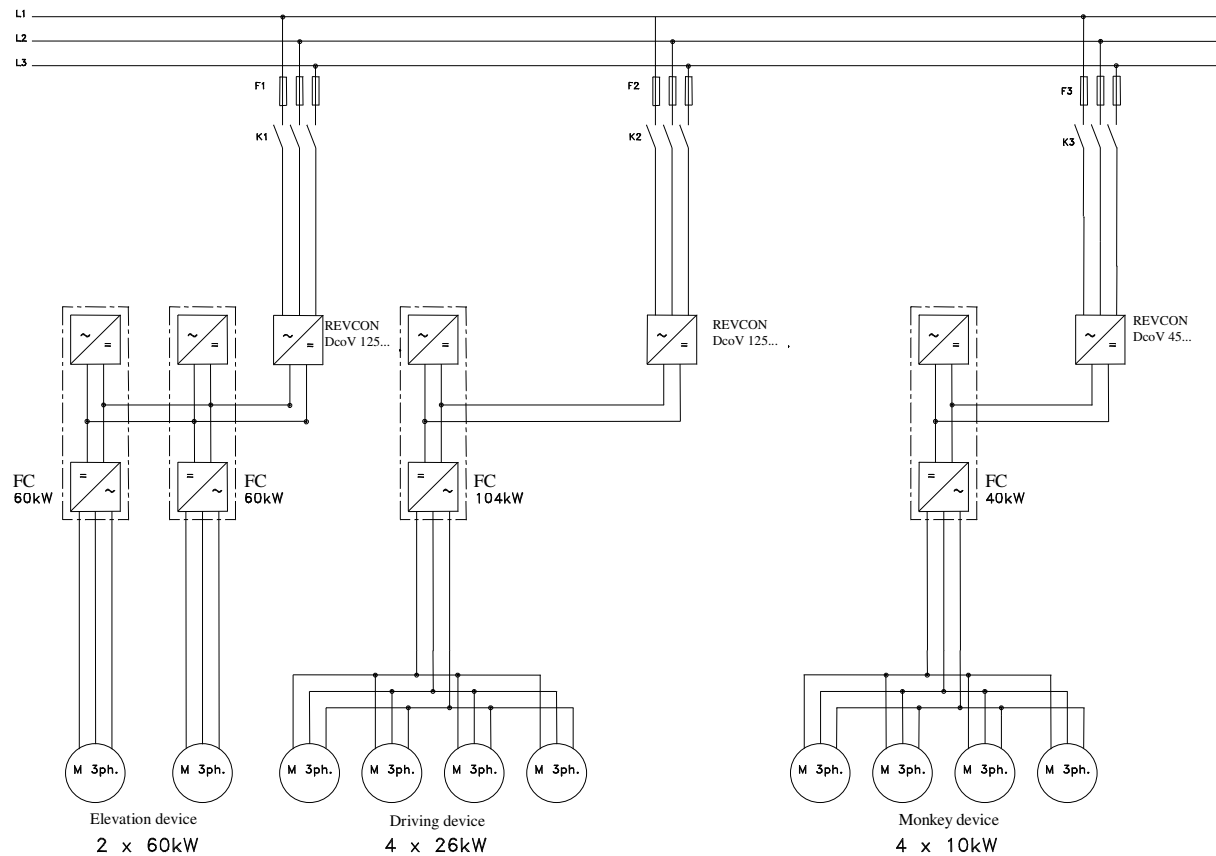

Figure 4.5.1
7. At these terminals one or more controllers (even with different power ratings) may be attached, like it shown in figure 4.5.1. Even if several controllers are attached, the wires have to be as **short and low impedance** as possible!
Within greater plants several power feed/feedback units may be coupled. Figure 4.5.1 shows an example of a crane system with some possible combinations.